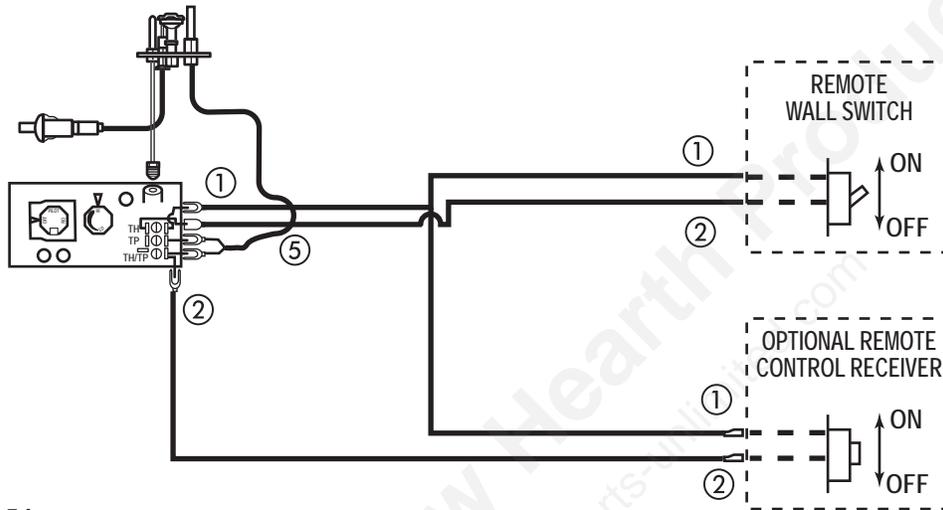

Figure 54 –
A remote wall switch and up to fifteen (15) feet of 18 Ga. wire may be used with this appliance. Attach the wall switch in a junction box at the desired location on the wall. *Figure 54*. Do not extend beyond the wall switch wire length provided.
3. Connect the wire terminal from the remote receiver. *Figure 54*